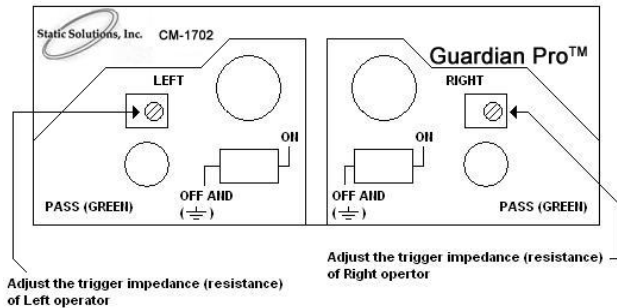

FIGURE 2.
*Preset impedance:* This equipment screw can be turned and adjusted to another capacitance value (FIGURE 2.) according to the weight or height of the user and the operation conditions.
A 5 Meg Ohm (original setting) was used as an adjustment in case the user's monitor is out of specification. To re-calibrate or check on the accuracy, connect a 5meg ohm resistor between the ground and banana jack for wrist strap, then turn the knob in Figure 2 until the LED "JUST" changes from flashing red to green or green to flashing red. A different resistance values may be used.
4. The impedance setting is not adjusted correctly to the user due to the weight or height of the operator. To adjust the monitor to the operator turn the impedance setting pot inside the rectangular hole in the front panel (FIGURE 2.) in order to lower or increase the sensitivity.
1. The sensitivity of the impedance is too low you .To correct turn the impedance setting pot inside the rectangular hole in the front panel (FIGURE 2.) to a higher sensitivity.